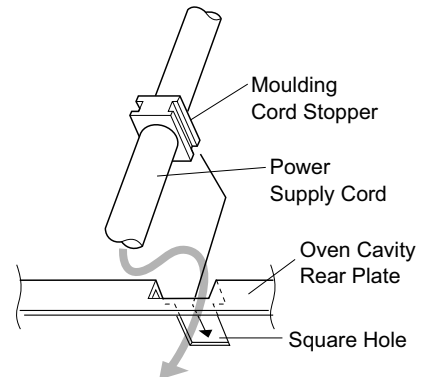

Figure C-3b. Power Supply Cord Replacement
1. Insert the moulding cord stopper of power supply cord into the square hole of the oven cavity rear plate, referring to the Figure C-3b.
2. Install the earth wire lead of power supply cord to the cavity rear plate with one (1) screw and tighten the screw.